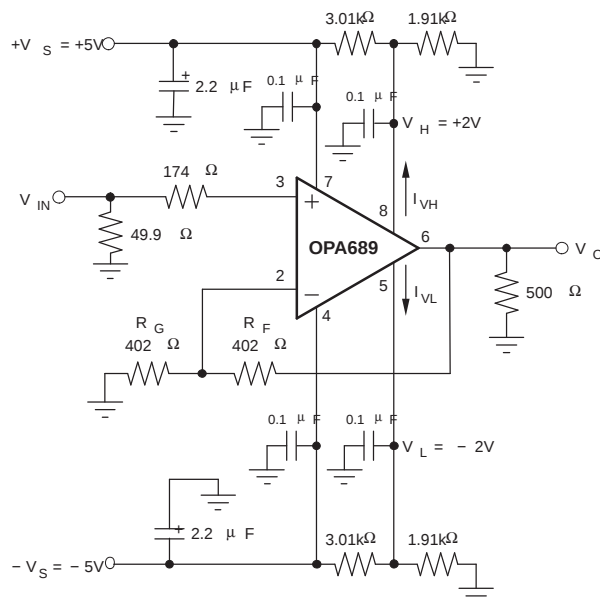
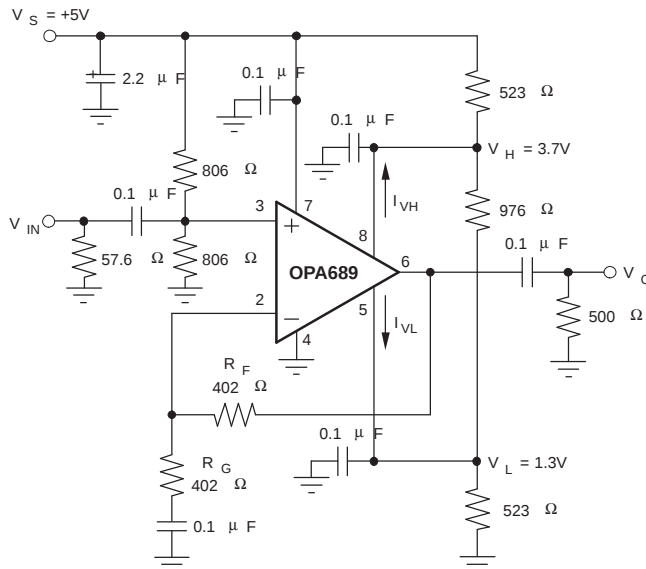

Figure 30. DC-Coupled, Dual Supply Amplifier
Figure 31. AC-Coupled, Single Supply Amplifier
(3) I_{VH} (V_H bias current) is positive and I_{VL} (V_L bias current) is negative under these conditions (see Note 3, Figure 31, and Figure 37).
(4) Limiter feedthrough is the ratio of the output magnitude to the sinewave added to V_H (or V_L) when $V_{IN} = 0$.
(5) Current is considered positive out of node.
(6) V_H slew rate conditions are $V_{IN} = 0.7\text{ V}$, $G = 6$, $V_L = -2\text{ V}$, $V_H = \text{step between } 2\text{ V and } 0\text{ V}$. V_L slew rate conditions are similar.
Figure 30 shows a non-inverting gain amplifier for dual-supply operation. This circuit was used for AC characterization of the OPA689, with a 50-Ω source, which it matches, and a 500-Ω load. The power-supply bypass capacitors are shown explicitly in Figure 30 and Figure 31, but will be assumed in the other figures. The limiter voltages (V_H and V_L) and their bias currents (I_{VH} and I_{VL}) have the polarities shown.
Figure 31 shows an AC-coupled, non-inverting gain amplifier for single 5-V supply operation. This circuit was used for AC characterization of the OPA689, with a 50-Ω source, which it matches, and a 500-Ω load. The power-supply bypass capacitors are shown explicitly in Figure 30 and Figure 31, but will be assumed in the other figures. The limiter voltages (V_H and V_L) and their bias currents (I_{VH} and I_{VL}) have the polarities shown. Notice that the single-supply circuit can use three resistors to set V_H and V_L , where the dual-supply circuit usually uses four to reference the limit voltages to ground.
voltages can break down internal junctions, possibly leading to catastrophic failure. Single-supply operation is possible as long as common mode voltage constraints are observed. The common mode input and output voltage specifications can be interpreted as a required headroom to the supply voltage. Observing this input and output headroom requirement will allow design of non-standard or single-supply operation circuits. Figure 31 shows one approach to single-supply operation.
When the limiter voltages are more than 2.1 V from the supplies ($V_L \geq -V_S + 2.1$ V or $V_H \leq V_S - 2.1$ V), you can use simple resistor dividers to set V_H and V_L (see Figure 30). Make sure you include the Limiter Input Bias Currents (Figure 37) in the calculations (i.e., $I_{VL} \geq 50$ μ A out of pin 5, and $I_{VH} \leq 50$ μ A out of pin 8). For good limiter voltage accuracy, run at least 1-mA quiescent bias current through these resistors.
When the limiter voltages need to be within 2.1 V of the supplies ($V_L \leq -V_S + 2.1$ V or $V_H \geq V_S - 2.1$ V), consider using low impedance buffers to set V_H and V_L to minimize errors due to bias current uncertainty. This will typically be the case for single supply operation ($V_S = 5$ V). Figure 31 runs 2.5 mA through the resistive divider that sets V_H and V_L . This keeps errors due to I_{VH} and I_{VL} $< \pm 1\%$ of the target limit voltages.